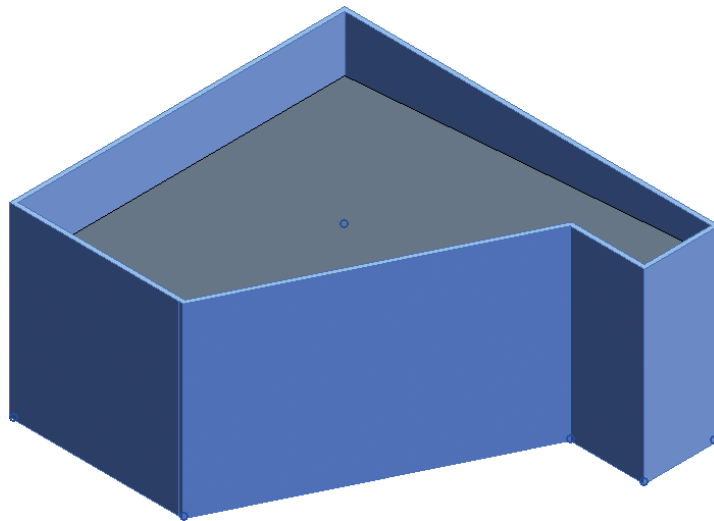

FIGURE 3.18 Adjusting the wall height
6. Select all the walls (using the Tab key to select the entire chain), and set Top Constraint to Level 4 in the Properties palette. The results resemble Figure 3.18.